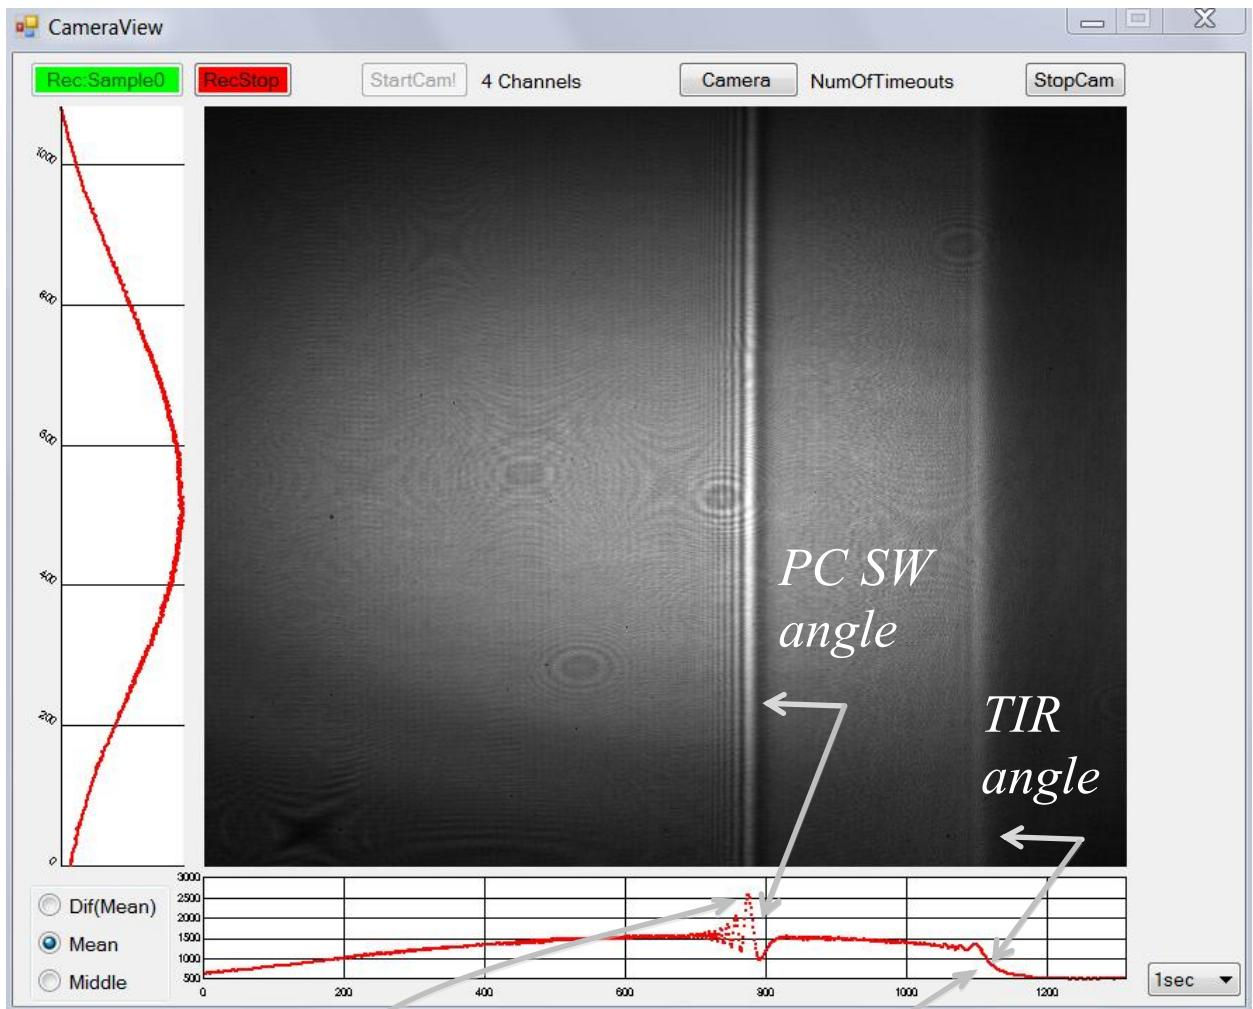

Figure 8. CameraView window.
The CameraView window (A) contains a picture from the CMOS camera, its x- and y-projections, and main controls. The quality of a sample can be easily estimated from this picture. If the PC SW vertical line is straight and clear, this attests to clearness and uniformity of the sample. The TIR vertical line should also be straight and uniform in a single-channel liquid cell (see **Figure 8**).